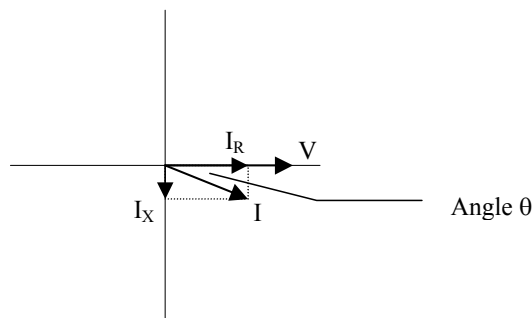

Figure 1.9: Voltage and Complex
- Real power (and energy) is the component of power that is the combination of the voltage and the value of corresponding current that is directly in phase with the voltage. However, in actual practice the total current is almost never in phase with the voltage. Since the current is not in phase with the voltage, it is necessary to consider both the in-phase component and the component that is at quadrature (angularly rotated  $90^\circ$  or perpendicular) to the voltage. Figure 1.9 shows a single-phase voltage and current and breaks the current into its in-phase and quadrature components.
The quadrature current may be lagging the voltage (as shown in Figure 1.9) or it may lead the voltage. When the quadrature current lags the voltage the load is requiring both real power (watts) and reactive power (VARs). When the quadrature current leads the voltage the load is requiring real power (watts) but is delivering reactive power (VARs) back into the system; that is VARs are flowing in the opposite direction of the real power flow.
where  $\theta$  is the angle between the voltage and the current (see Fig. 1.9).